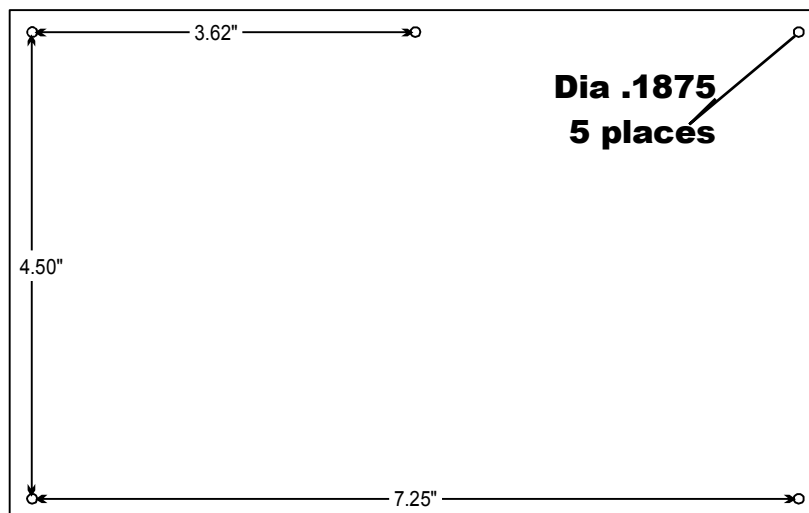

FIG. 3-13 BCD TERMINATION BOARD INSTALLATION DRILL TEMPLATE
- Use the measurements shown in Figure 3-13 BCD Termination Board Installation Drill Template Illustration or P/N 0596-0117 drill template to mark five mounting holes. (See Fig. 3-13)